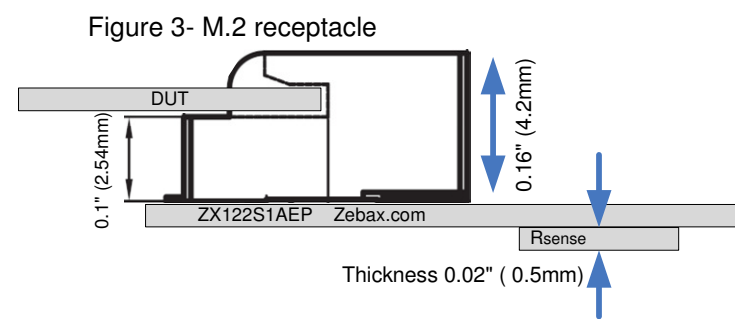

Figure 2-Simplified Block diagram
- 2- Rotate module to 25°, insert it until the module surface reaches the ramp, figure 2, 3